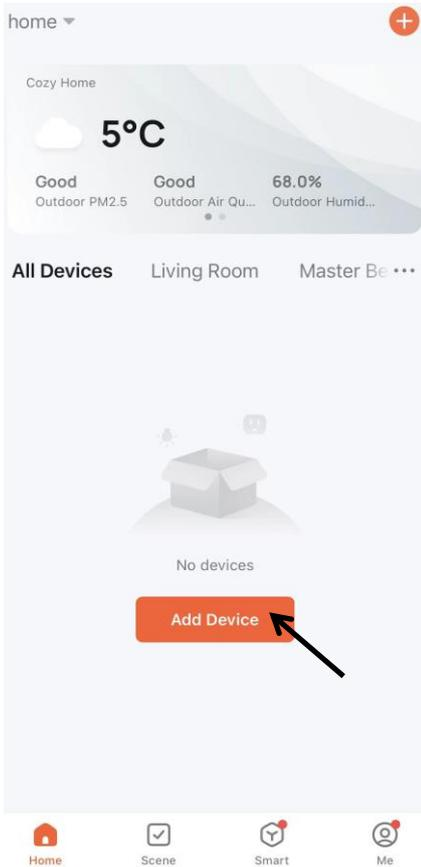

Fig.1
2. Sign up or log in to your account on the APP. Tap the "+" at top right corner or button "Add Device" to add your device. (Fig.1)